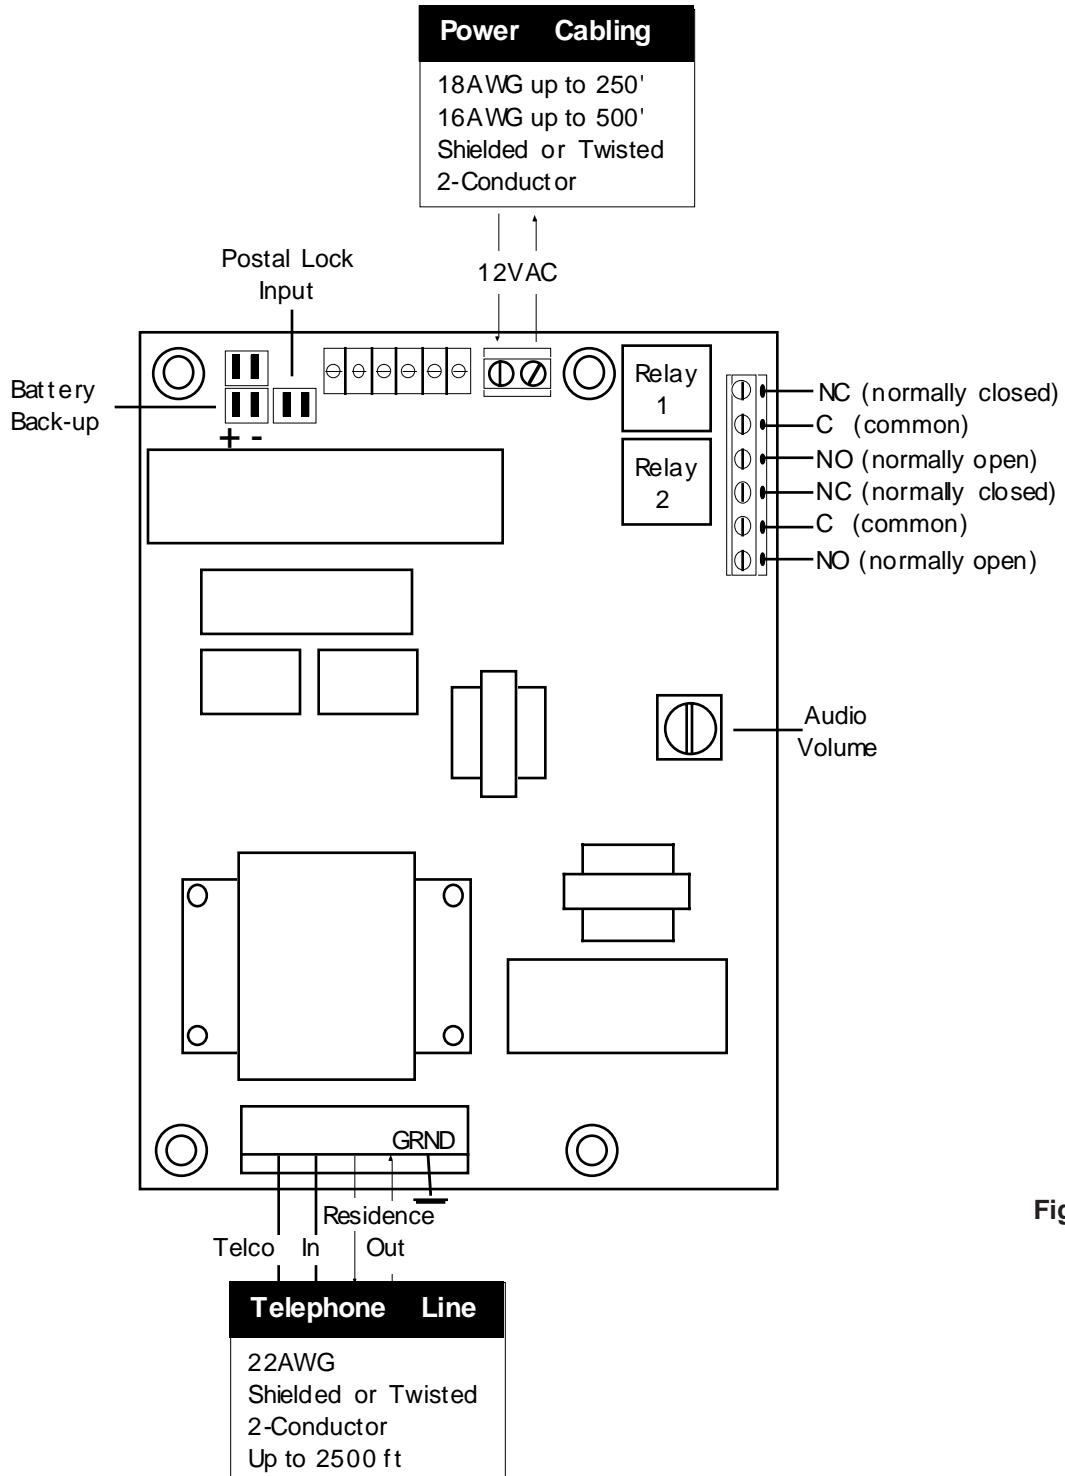

Figure 3
3. Ground the unit by attaching a separate 12 AWG ground wire to the ground location on the terminal block (see wiring diagram Fig. 3). This ground wire should go to a grounding rod or grounded metal conduit.
7. Use the enclosed wiring diagram (Fig. 3) for wire connection information. Be sure to hook up the memory battery.